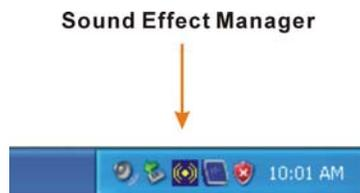

Figure 6-26: Sound Effect Manager Icon [Task Bar]
- f The Sound Effect Manager icon in the Notification Area of the system task bar (see Figure 6-26), or